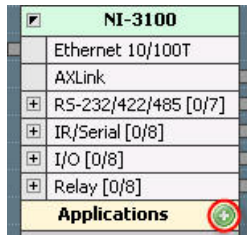

FIG. 85 Central Controller - Application Node
2. Click on the plus icon in the **Applications** node (FIG. 85):